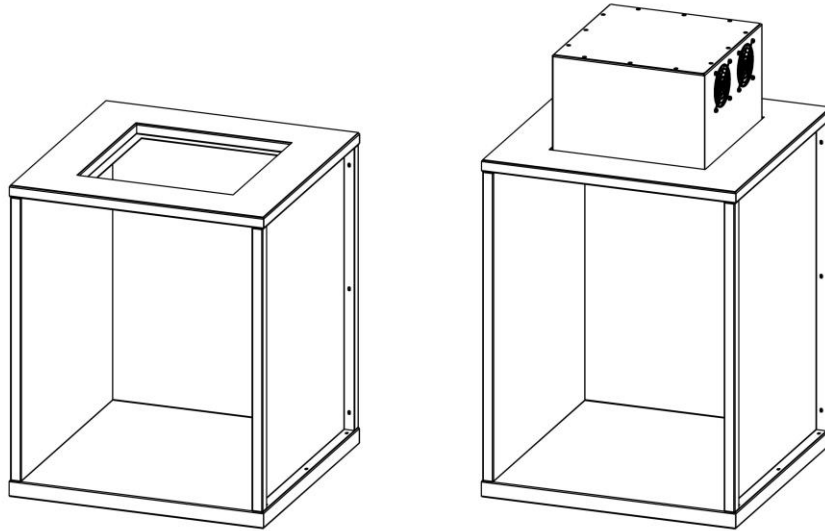
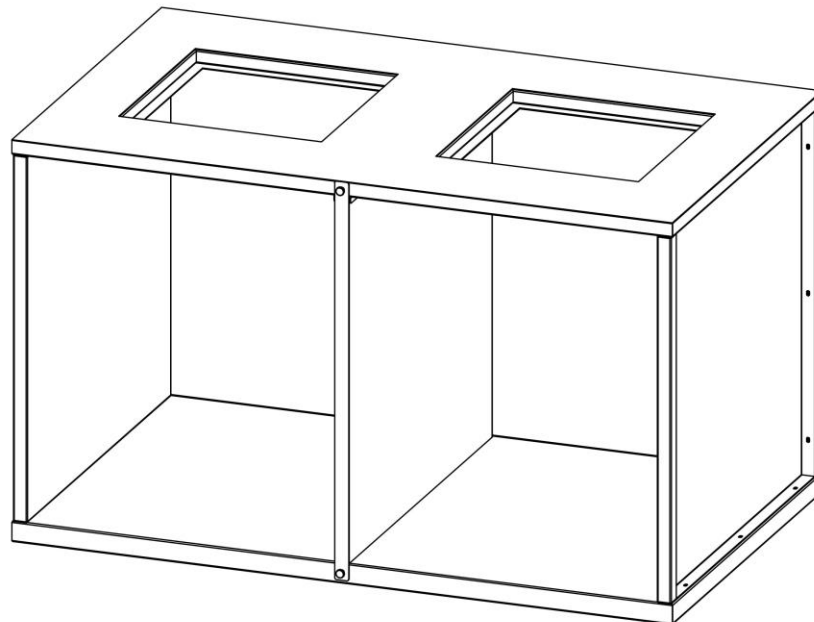

Fig. 2.5. LEDCube standard viewing cabinet
Fig. 2.6. LEDCube customized cabinet
4. Munsell N7 standard viewing cabinet. As shown in Fig.2.5, THOUSLITE provides the standard viewing cabinet in dimension of 50×50×60cm, which is very convenient to setup a standard viewing environment. In addition, THOUSLITE also provide the customized dimension cabinet service as shown in Fig. 2.6.